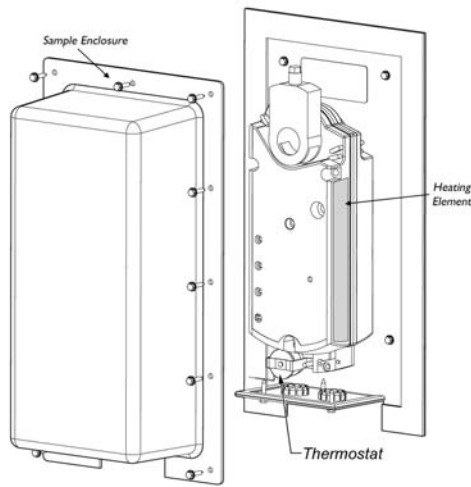

Figure 2. Heating Element Mounting Position
2. Mount heater thermostat inside enclosure. See Figure 2.
4. With the front of the actuator facing you, affix the heater element to upper housing of the actuator on the right side. See Figure 2. No wire polarity is required for heater or thermostat.